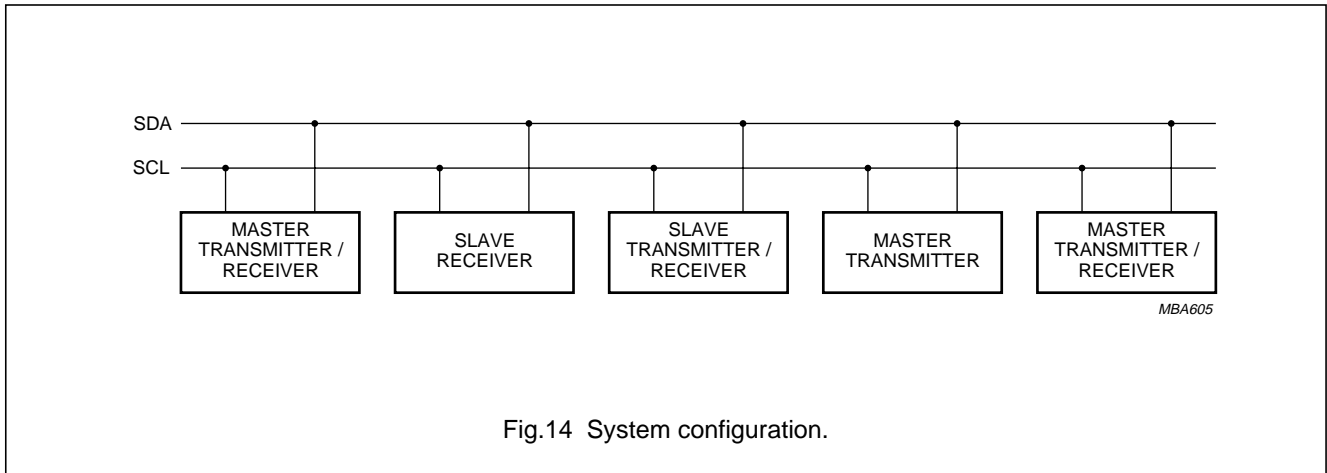

Fig.14 System configuration.
8.3 System configuration (see Fig.14)